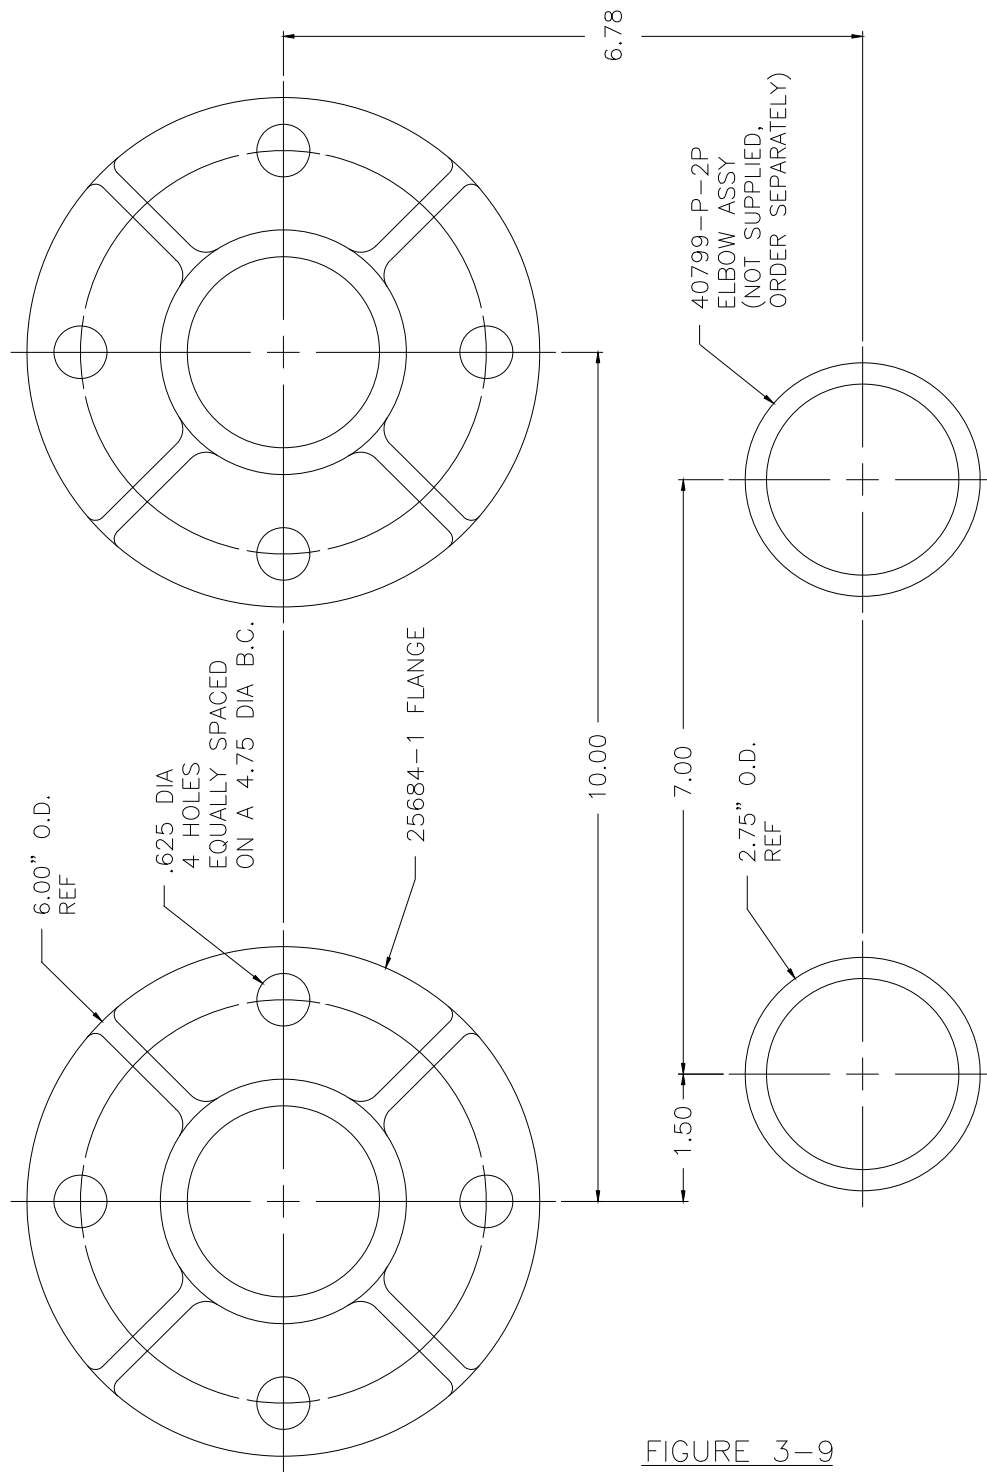
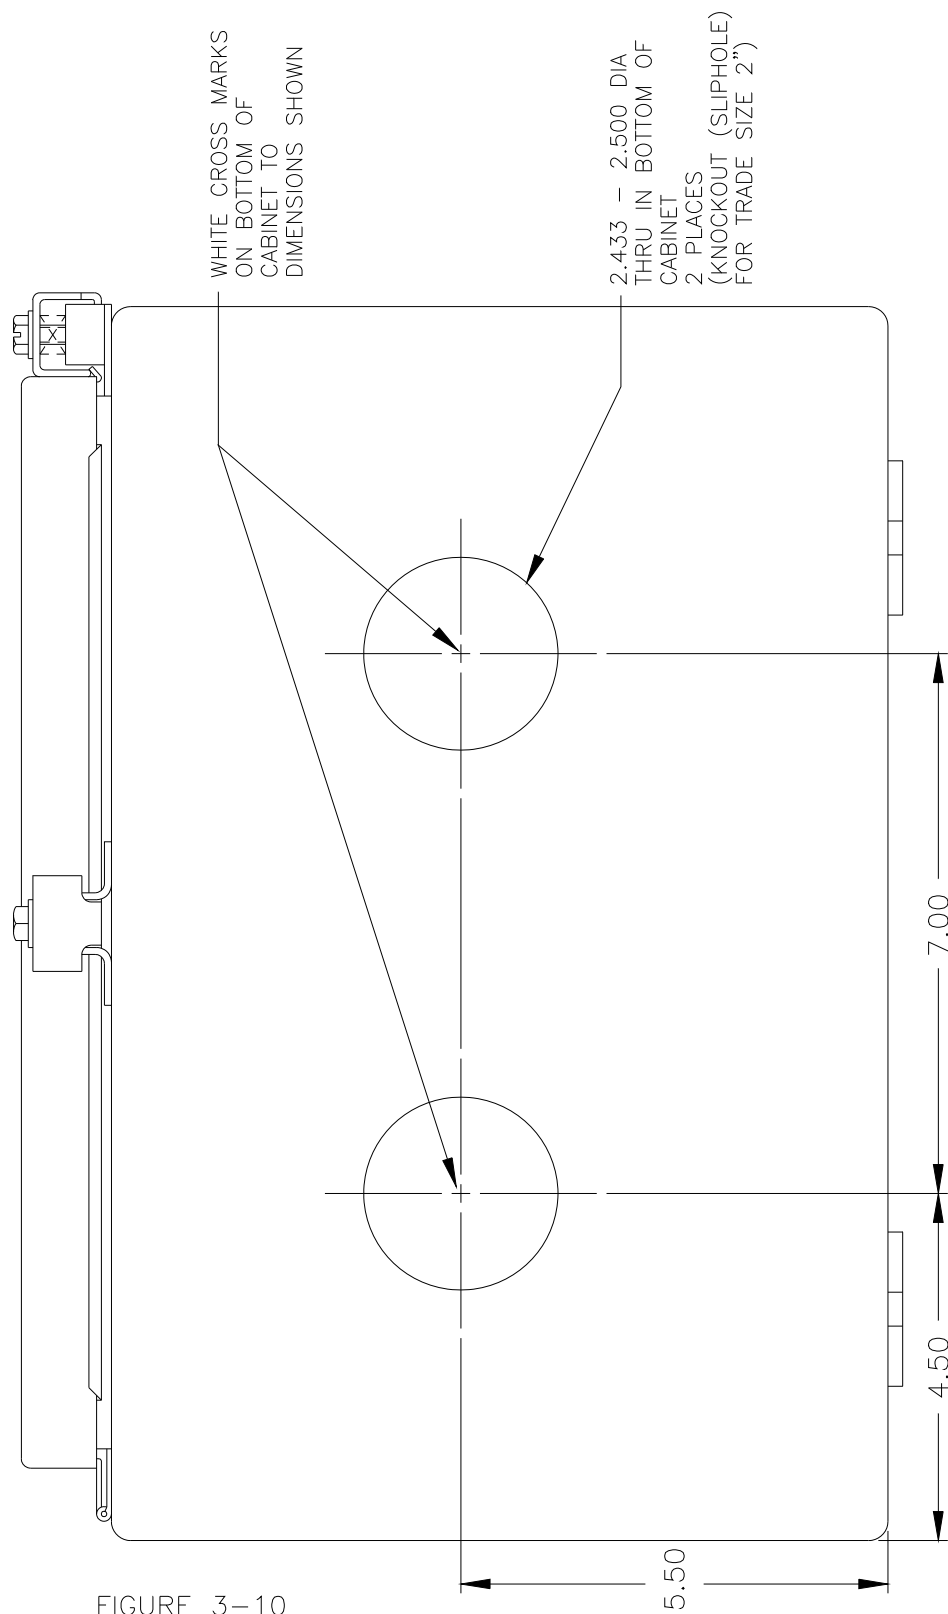

FIGURE 3-9
FIGURE 3-10
- () 2. Refer to paragraphs 3.1.3.1 through 3.1.4 and Figure 3-9 for cement pad and leg information. See Figure 3-11 for mounting details, and Figure 3-10 for conduit hole locations.